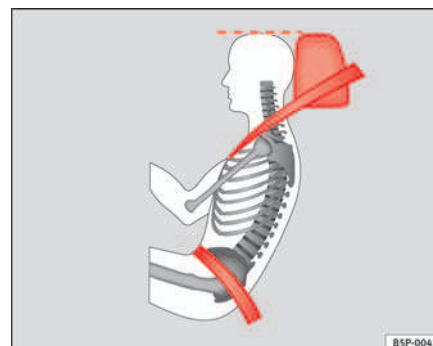

Fig. 14 Correct belt web and head restraint positions, viewed from side
- The lap part of the seat belt must lie across the pelvis, never across the stomach. The seat belt must lie flat and snugly on the pelvis ⇒ page 25, fig. 14. Pull the belt tight if necessary to take up any slack.